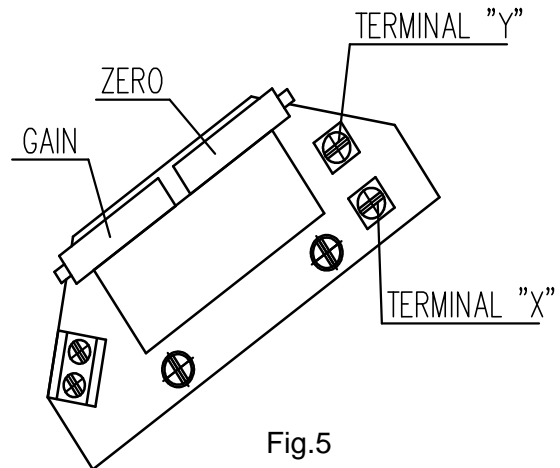

Fig.5
4.4.1 EPV – the 2-wire version (Fig. 5,5a)
- Adjust the resistive transmitter according to the previous chapter. The resistance is to be metered on the terminals X-Y (Fig. 5,5a). The used transmitter resistance is 100 Ω .
- Turn the adjusting trimmer ZERO (Fig. 5,5a) to adjust the output current signal rate measured on the terminals 81-82 to 4mA.
- Turn the adjusting trimmer GAIN (Fig. 5,5a) to adjust the output current signal rate measured on the terminals 81-82 to 20mA.